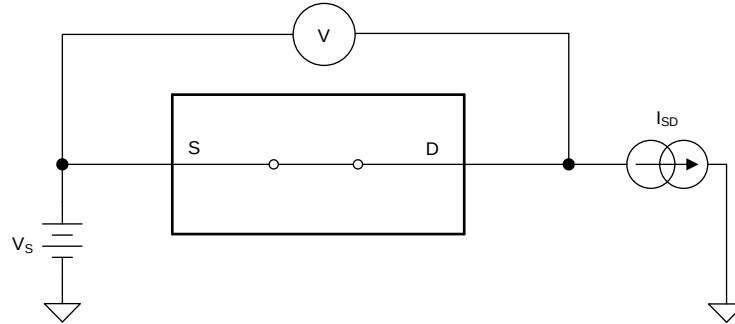

Figure 1. On-Resistance measurement setup
The on-resistance of a device is the ohmic resistance between the source (S) and drain (D) pins of the device. The on-resistance varies with input voltage and supply voltage. The symbol R_{ON} is used to denote on-resistance. The measurement setup used to measure R_{ON} is shown in Figure 1. Voltage (V) and current (I_{SD}) are measured using this setup, and R_{ON} is computed with $R_{ON} = V / I_{SD}$: